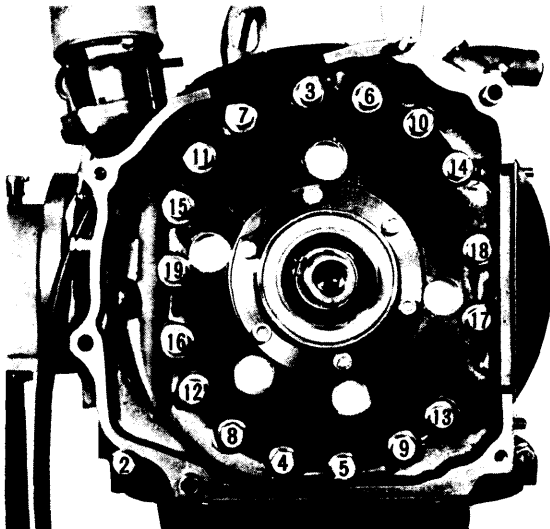

Fig. 4 Loosening Sequence of Tension Bolts
9) Turn rear of engine upward. Loosen tension bolts in sequence shown in Fig. 4, doing so in two or three steps. Remove bolts and lift rear housing off shaft. Remove any seals stuck to rotor sliding surface of rear housing, and replace them in original positions. Remove and discard two sealing rubbers and two "O" rings from rear side of rear rotor housing.